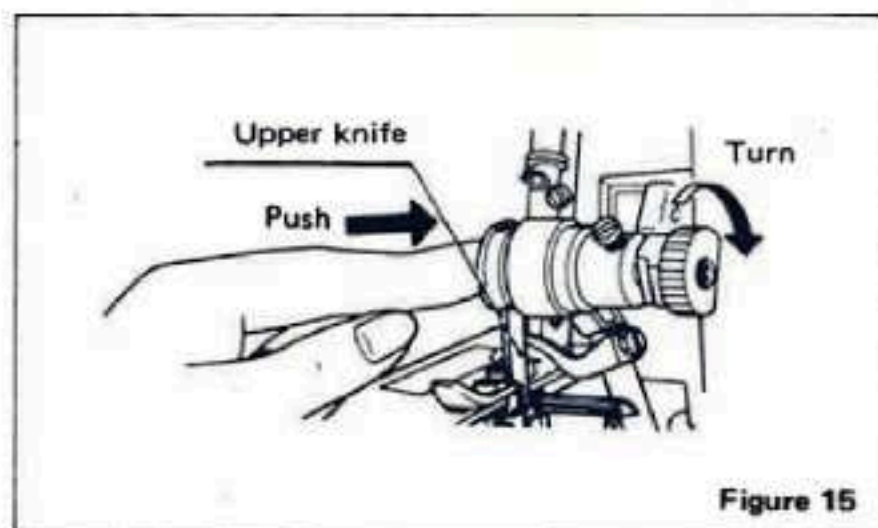

Figure 15
2. Push the upper knife holder to the right and turn the knife to the "up" position (Figure 15):
5. Push the upper knife holder with finger and turn the knife holder knob clockwise to bring the knife to "up" position (See Figure 15).